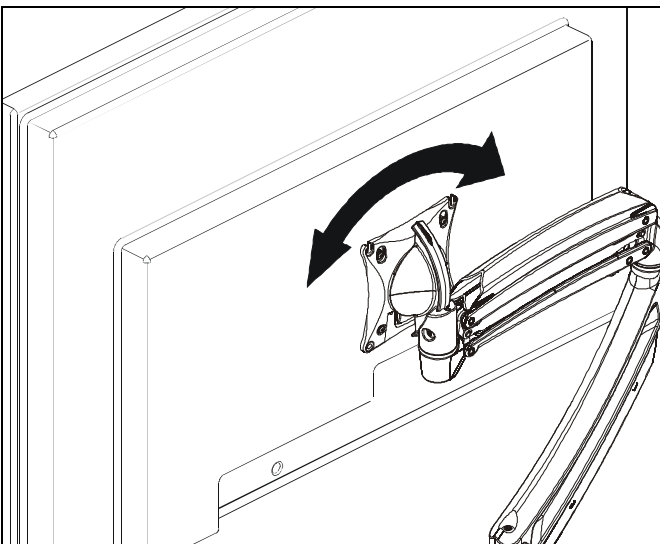

Figure 15
1. The monitor may be adjusted 90 degrees in either direction in order to provide a portrait view of the monitor. (See Figure 15)